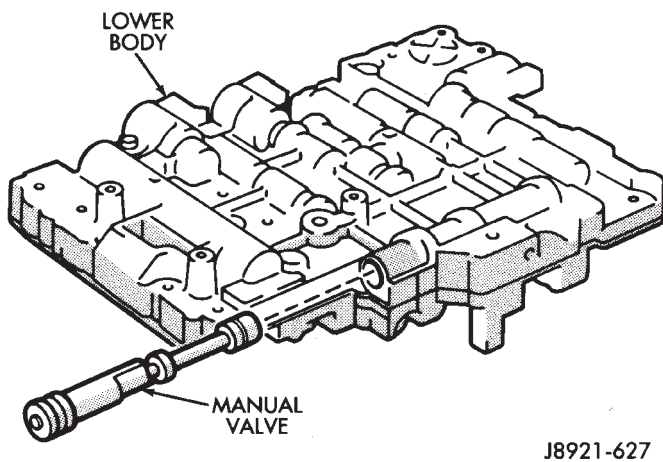

Fig. 4 Removing/Installing Manual Valve
- (2) Remove manual valve from lower body (Fig. 4).
- (3) Remove bolts attaching upper body to lower